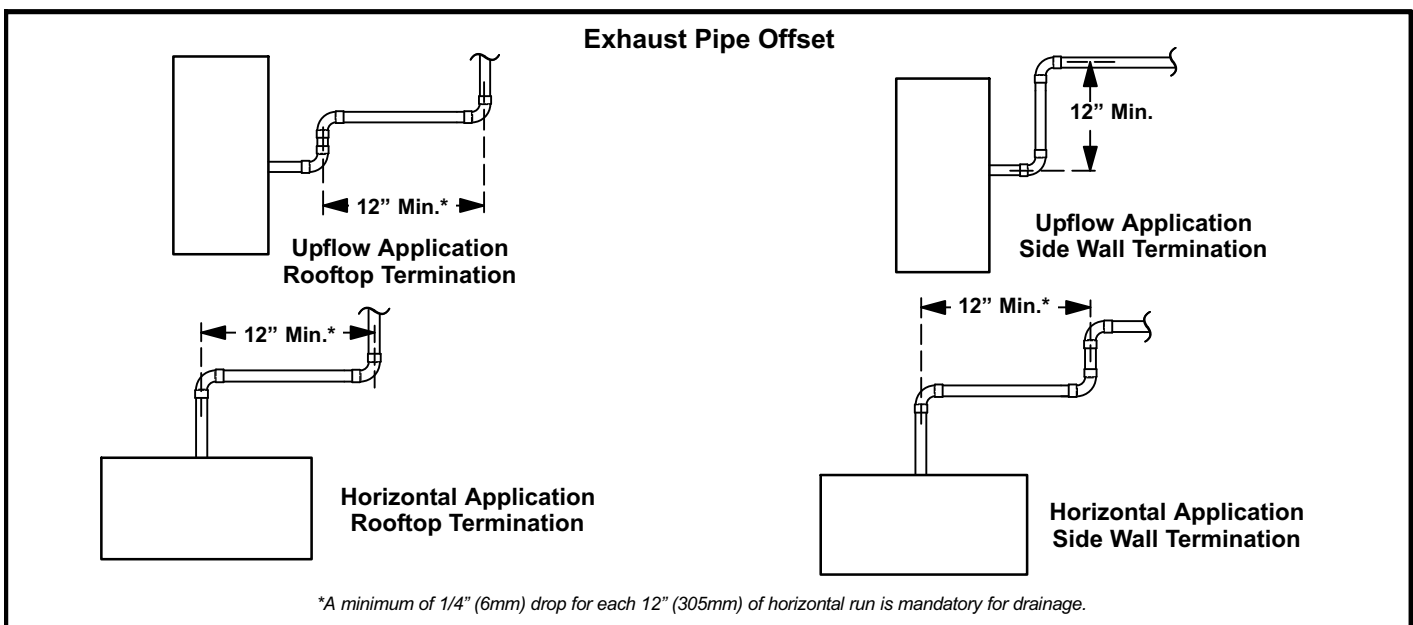

FIGURE 21
***NOTE** - The exhaust pipe should be offset a minimum of 12 inches to avoid the possibility of water droplets being released from the exhaust termination. The minimum exhaust vent length is 15 ft. Shorter exhaust vent lengths may result in the discharge of water droplets from the exhaust termination, in spite of the 12-inch vertical offset. See figure 21.